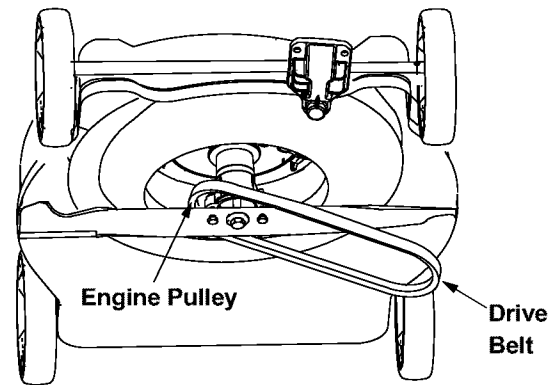

Figure 14
8. Slide the belt off the engine pulley and around the blade. See Figure 14 .